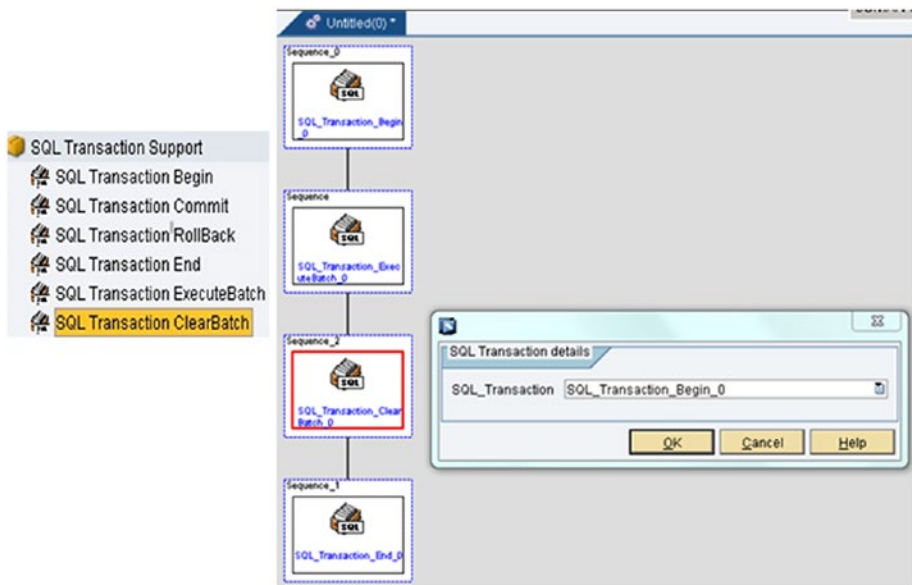

Figure 7-176. SQL Transaction Clear Batch action block and its configuration
- *SQL Transaction Clear Batch:* This action block clears the batch processing in the queue, as shown in Figure 7-176.